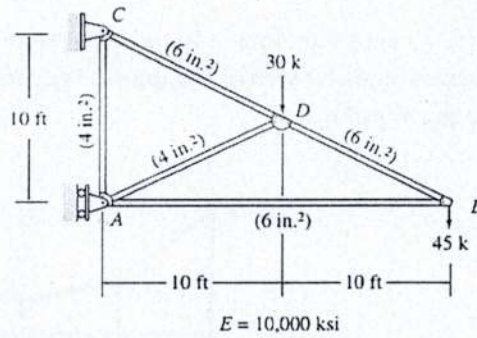

Figure: 8
- (b) Determine the horizontal component of the deflection at joint B of the truss shown in Figure 8. Use virtual work method.